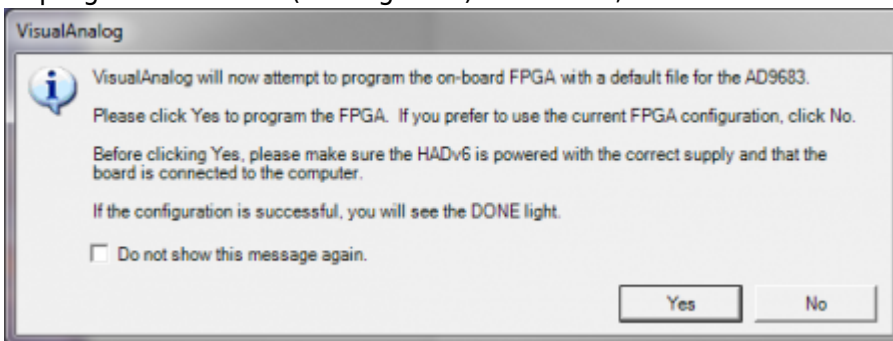

Figure 4. VisualAnalog Default Configuration Message
- After the template is selected, a message appears asking if the default configuration can be used to program the FPGA (see Figure 4). Click **Yes**, and the window closes.